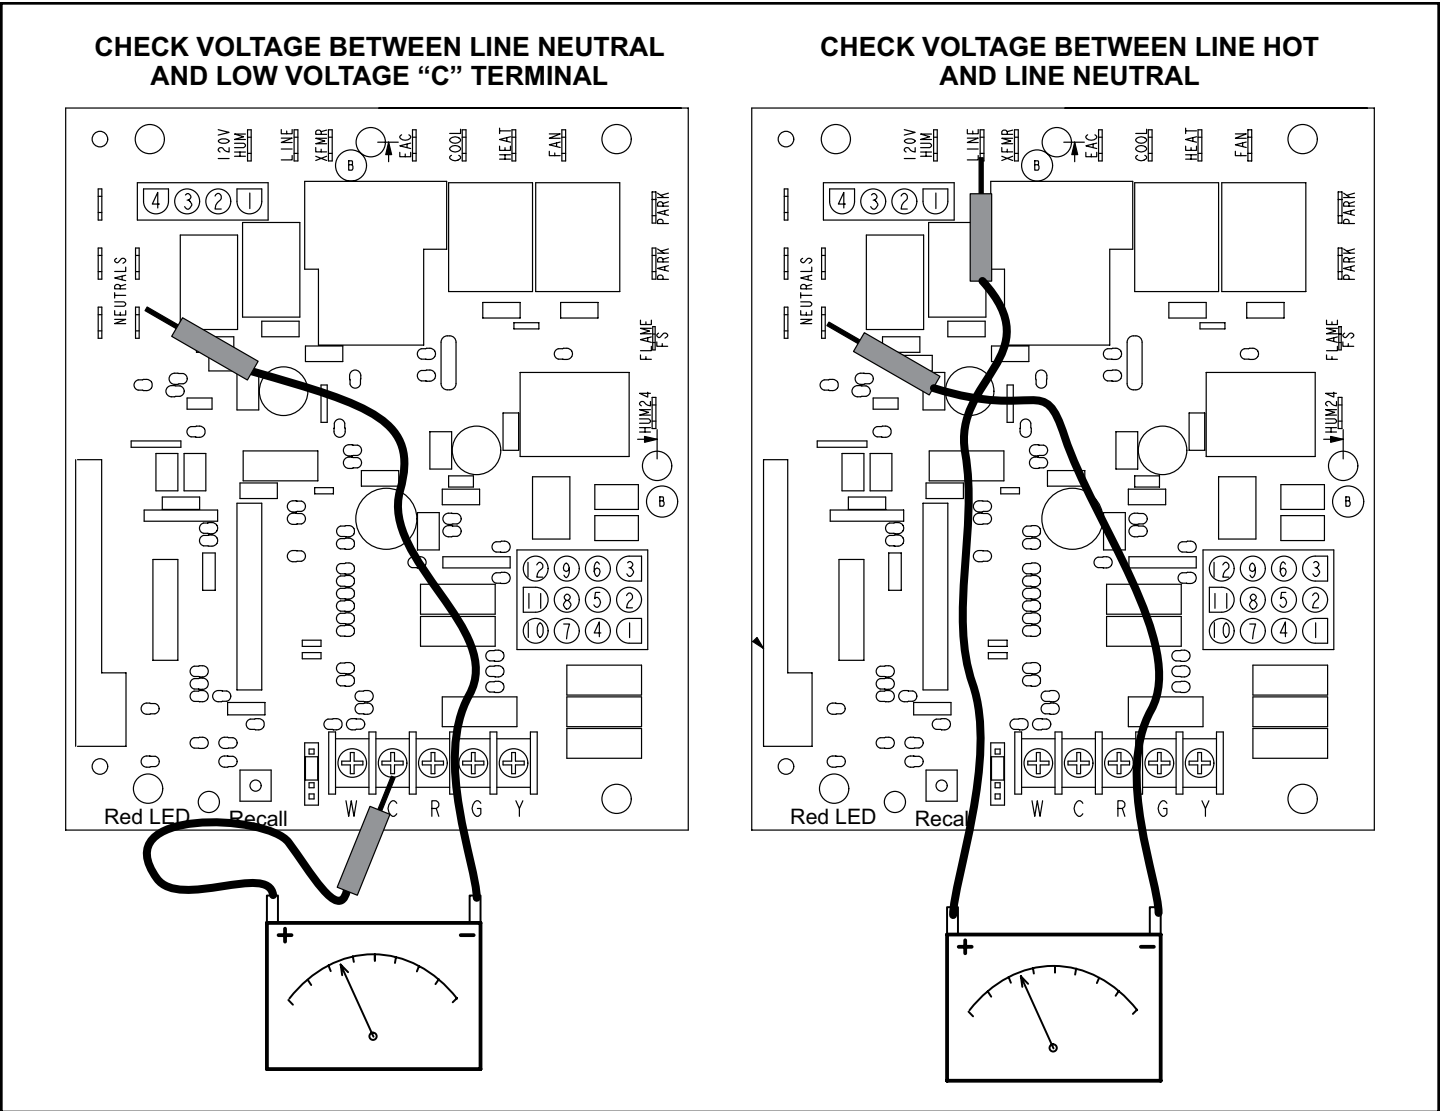

Figure 16.
- 1. Measure the AC voltage between Line Neutral (spade terminals) and “C” terminal (low voltage terminal block) on the integrated control. See Figure 16. A wide variation in the voltage between Line Neutral and “C” as a function of load indicates a poor or partial ground. Compare the readings to Table 11. If the readings exceed the maximum shown in Table 11, make repairs before operating the furnace.
- 2. In addition, measure the AC voltage from Line Hot to Line Neutral (spade terminals) on the integrated control. See Figure 16. This voltage should be in the range of 97 to 132 VAC
Blower speed tap changes are made on the integrated control. See Figure 3 or Figure 16. The heating tap is connected to the "HEAT" terminal and the cooling tap is connected to the "COOL" terminal. On all units the continuous blower tap is connected to the "FAN" terminal. Unused taps must be secured on two dummy terminals labeled "PARK". To change out existing speed tap, turn off power and switch out speed tap with tap connected to "PARK". See blower speed tap table on unit diagram for motor tap colors for each speed.